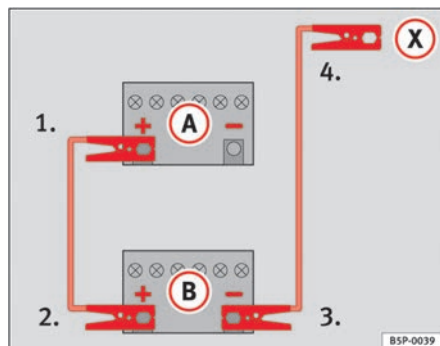

Fig. 198 How to connect the jump leads
⇒ fig. 198 (A) shows the flat battery and (B) the charged battery.
1. Connect one end of the red jump lead to the positive ⇒ fig. 198 (+) terminal of the vehicle with the flat battery ⇒ (!).
4. Connect the other end of the black jump lead (X) to a solid metal component which is bolted on to the engine block, or onto the engine block itself of the vehicle with the flat battery. Do not connect it to a point near the battery ⇒ (!).